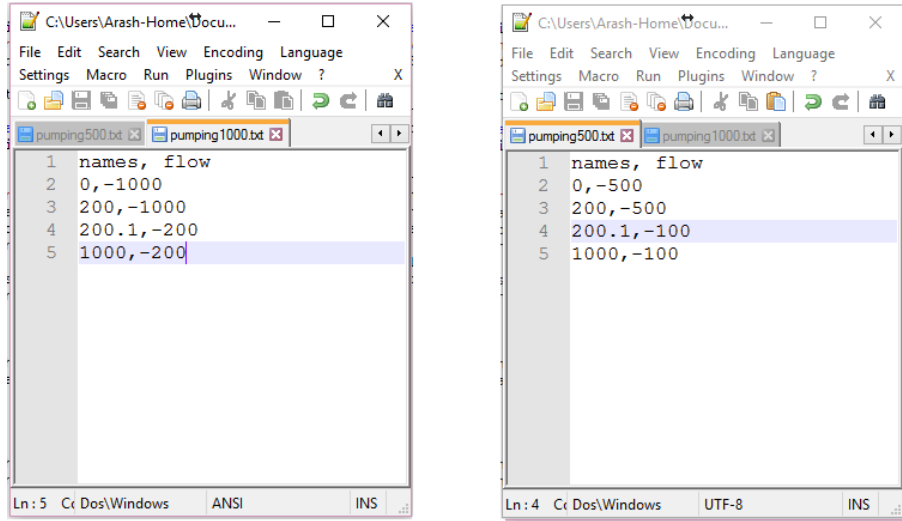

Figure 7: Revised pumping time-series files
- Make a copy of the pumping files and modify them as shown in figure 7. Save the newly created pumping files with a new names.
- Select the revised inflow time-series files as **Inflow time series** for blocks *Storage(54)* and *Storage (57)* respectively.